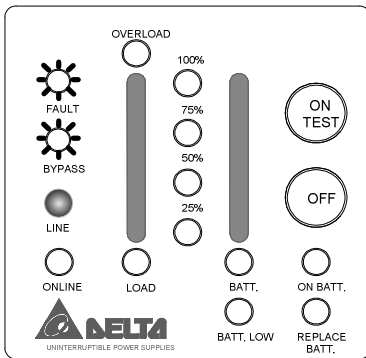
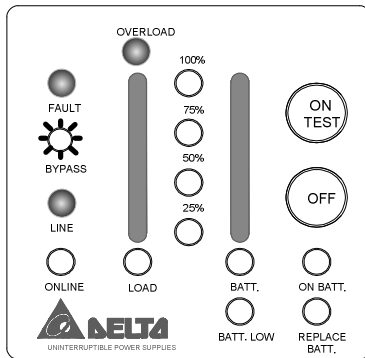

Figure 3-13 (O.T.P.)
Figure 3-14 (Fan Fail)
- ✓ When the inner components of UPS overheat, the UPS will protect itself by thermal switches. This status is so-called “**O.T.P**”. (See Figure 3-13.) Figure 3-14 shows the UPS fan fails.